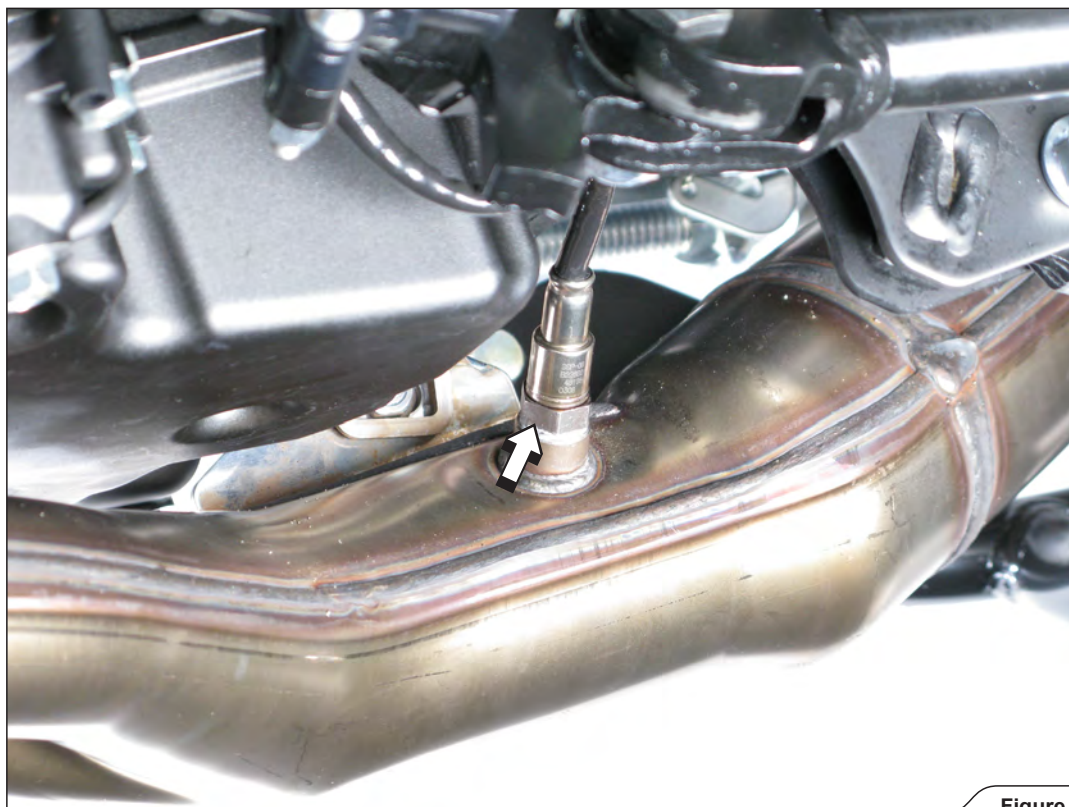

Figure 5
4. **For Akrapovič Racing only:** unscrew the lambda sensor (**Figure 5**).